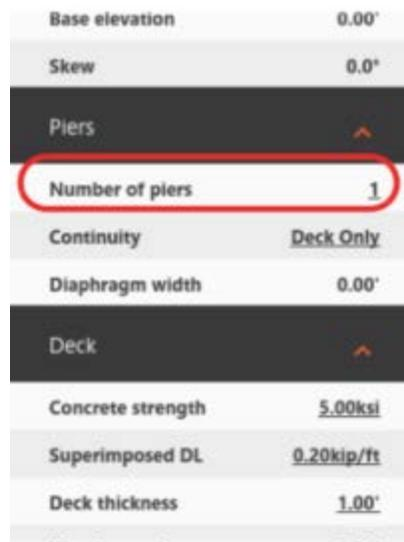

Figure 16
2. In the Bridge asset card, change Number of piers, as shown in Figure 16.